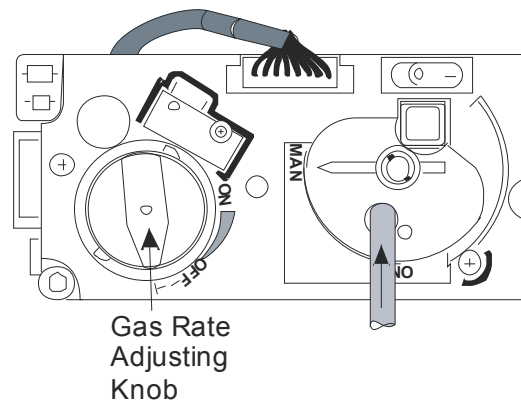

Figure 15
4. Using a rigid slender object (like a screwdriver) depress the pilot valve operator through the large hole in the knob (see **Figure 15**) and light the pilot using a match or lighted taper.